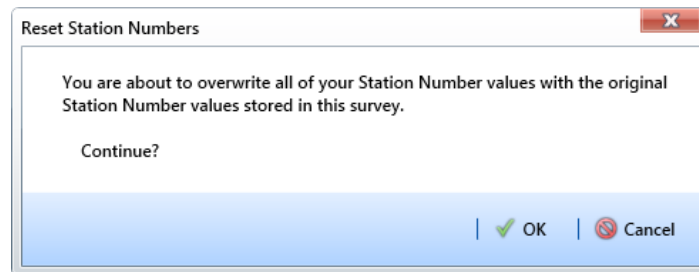

Figure 7-79. Reset Station Numbers
- Click  **Apply**. When the *Reset Station Numbers* message displays, click  **OK** to reset all station numbers or  **Cancel** to cancel the operation (Figure 7-79).